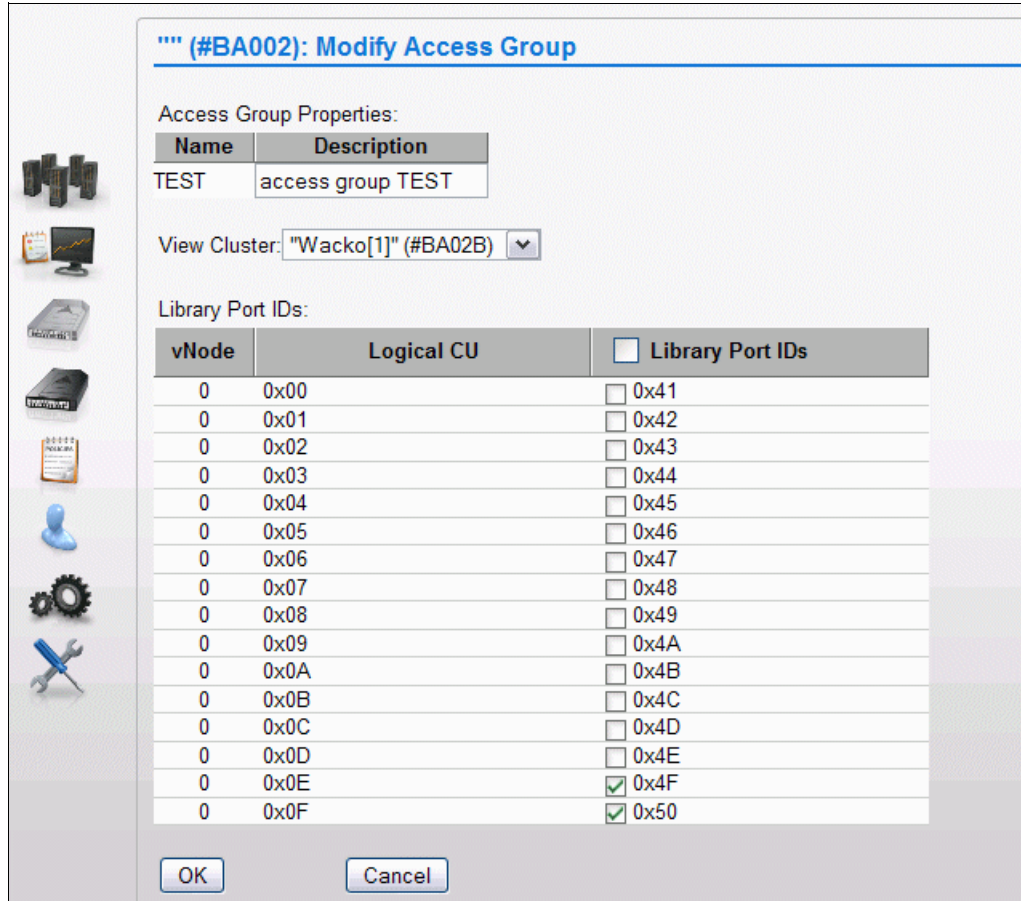

Figure I-11 Modify an access group for TEST LPAR
- Now, use the menu to select Cluster 1 to add Lib Ports 4F and 50 to the TEST access group as shown in Figure I-11.